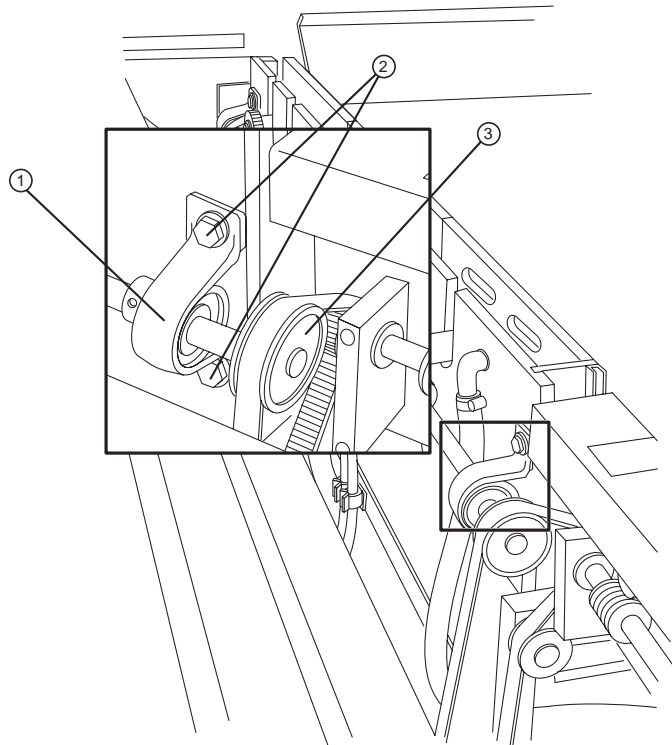
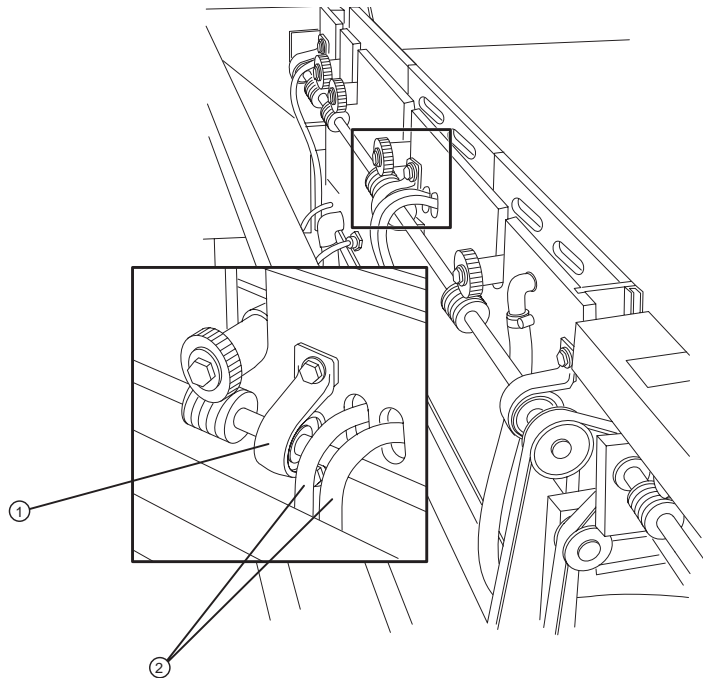
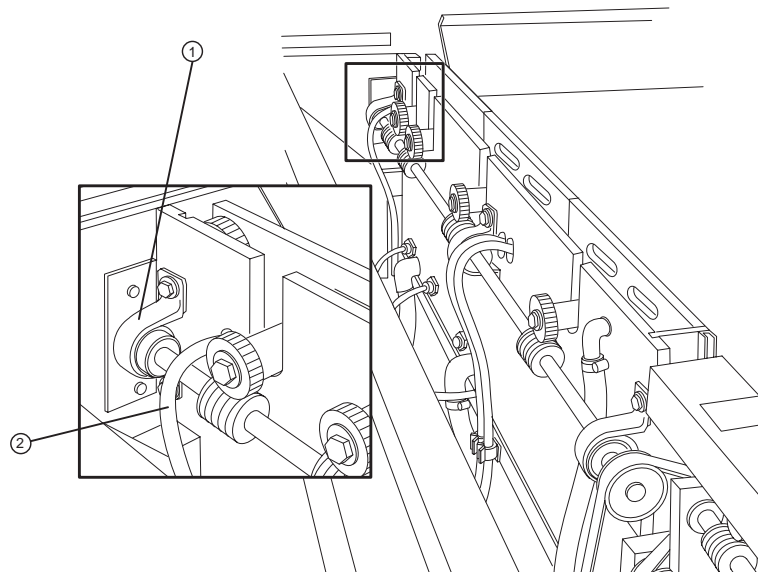

Figure 3-22 Bearing bracket and drive gear.
Figure 3-23 Bearing bracket and J-hooks.
Figure 3-24 Bearing block and J-hook.
4. Loosen the three drive motor mounting bolts to loosen the belt. Slide the belt from the idler, and remove the belt from the drive shaft. Refer to Figure 3-22.
①—Bearing bracket (front). ②—Bearing bracket bolts. ③—Drive gear with set screw.
5. Remove the allen set screw from the belt wheel. Refer to Figure 3-22.
6. Remove the three (3) J-hooks (two at the center, one at the rear). Refer to Figure 3-23 and Figure 3-24.
7. Using a 10mm wrench, remove the bolts from the three (3) bearing brackets (located at the front, center and rear). Lift the drive shaft back and out. Refer to Figure 3-22, Figure 3-23, and Figure 3-24.